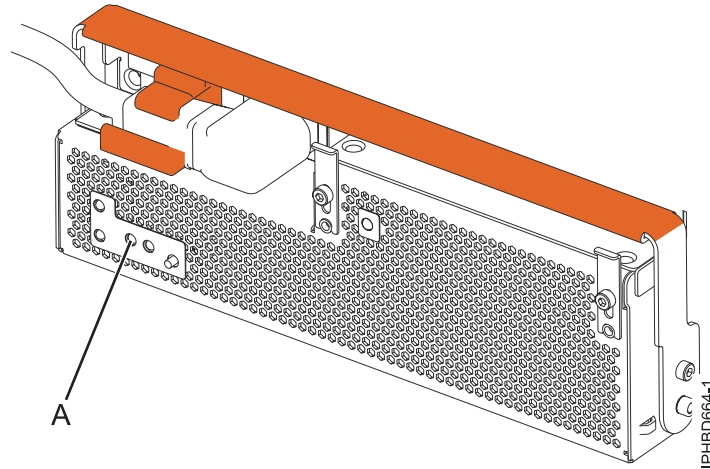

Figure 7. FRU fault and identify LED
4. At the front of the expansion unit, identify the power supply that needs to be replaced. To identify the power supply, observe the state of the amber field-replaceable unit (FRU) fault and identify light-emitting diode (LED) (A) as shown in Figure 7 on page 10. A lit (on solid or flashing) LED indicates the failing power supply.